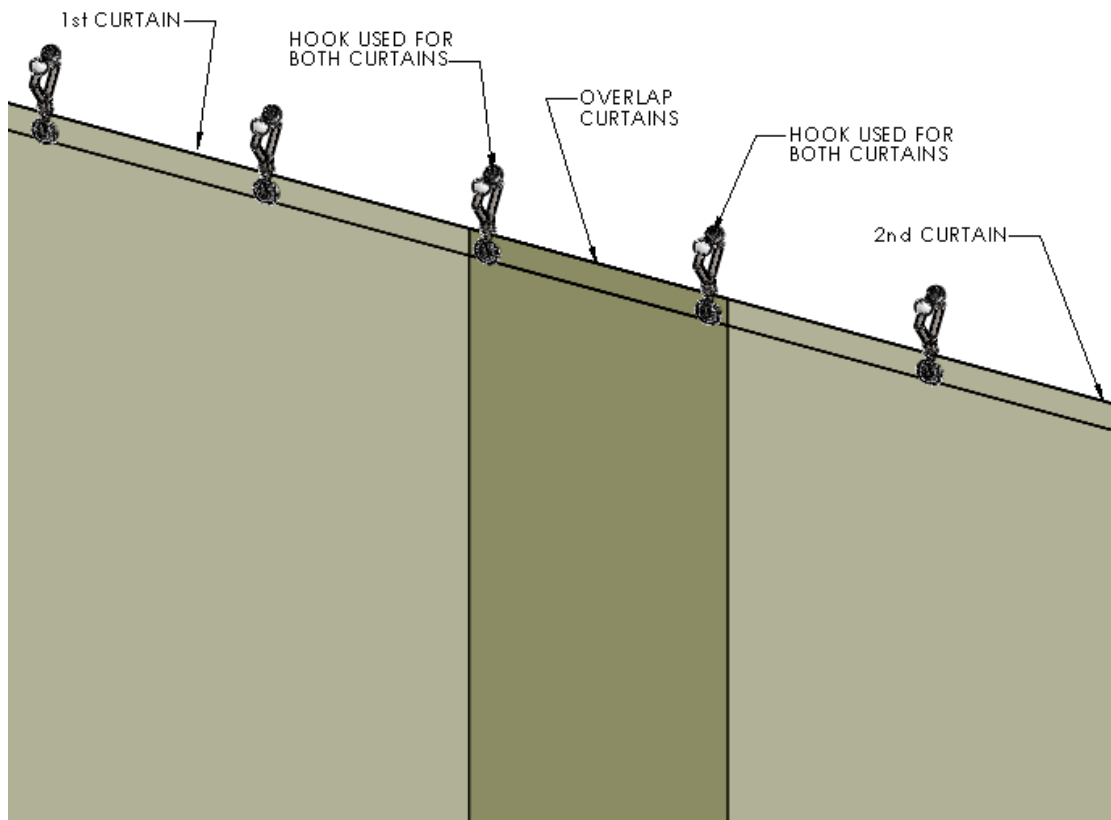

Figure 4 Overlap - Multiple Curtain Assembly
The 2nd Curtain will share the last two (2) Trolleys of the 1st Curtain. (Figure 4 Overlap - Multiple Curtain Assembly)